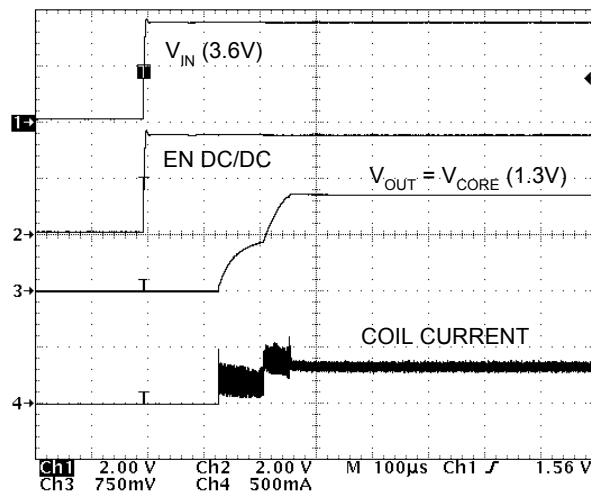

Figure 8. Default Core Voltage V_{OUT} Set to 1.3 V at Power Up
The default core voltage adjustment during power up is shown in Figure 8. The TPS62300 powers a resistive load of 3.9 Ω which results in a load current of 330 mA at 1.3-V default output voltage. In Figure 8, the enable pin (EN) of the DC/DC converter is driven high together with V_{IN} . The core voltage ramps up with a minimum delay. Modern processors, however, are able to generate control signals to start up external core supply circuits by themselves. In this case, the processor controls the enable pin of TPS62300.